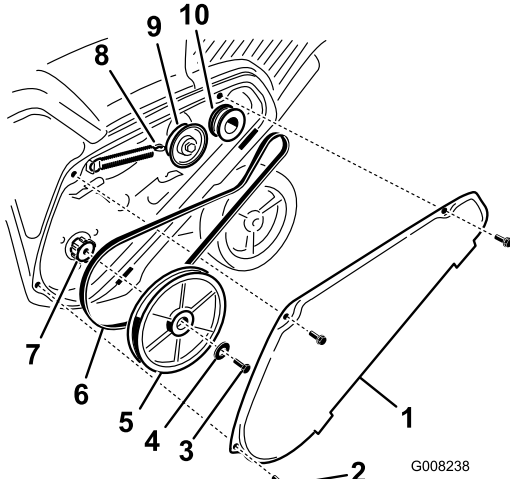

Figure 36
1. Remove the drive belt cover by removing the 3 bolts as shown in Figure 36.
2. Unhook the brake spring from the idler arm to release the belt tension (Figure 36).
3. Remove the screw and curved washer that holds the rotor pulley (Figure 36).
4. Remove the rotor pulley and the drive belt (Figure 36).
Note: Route the new drive belt first around the engine pulley, then the idler pulley, and finally around the loose rotor pulley positioned just above the rotor shaft (Figure 36).
6. Install the rotor pulley onto the rotor shaft (Figure 36).
7. Install the curved washer and the rotor pulley bolt and tighten them securely (Figure 36).